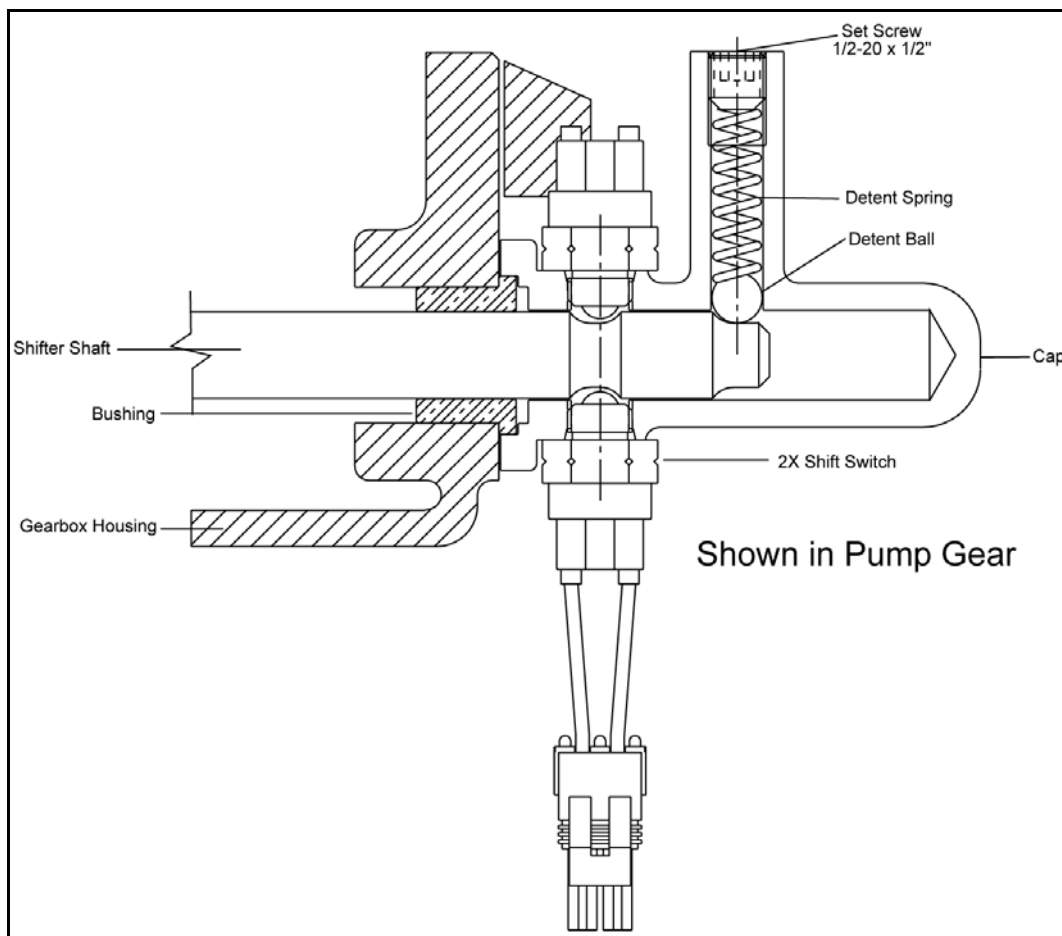

Figure 9-11: KPS Shift Cap Assembly
3. Unscrew the switches and remove them from the cap. See Figure 9-11: "KPS Shift Cap Assembly".